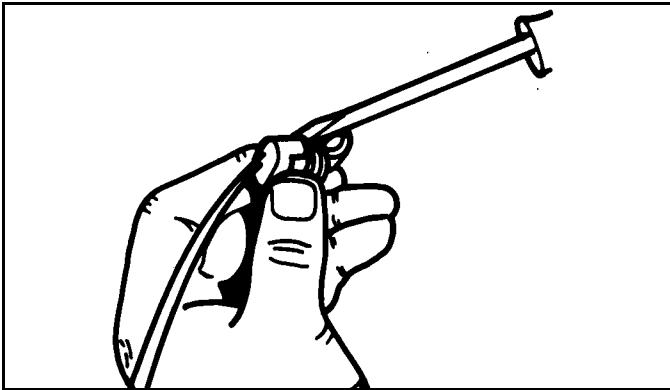

Figure 2-5
2. Remove retainer on wire end of connector with a screwdriver. (See Figure 2-5)